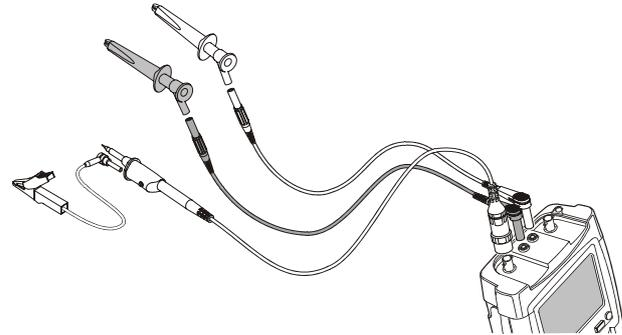

Figure 31. External Triggering
- 1 Supply a signal to the red **and** black 4-mm banana jack inputs. See Figure 31.